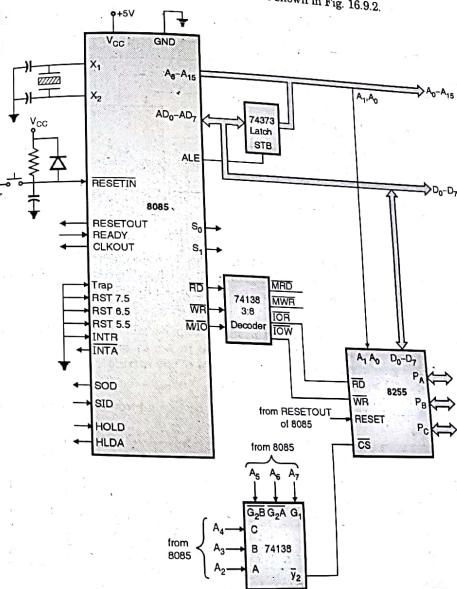

Fig. 16.9.2 : 8255 interfacing in I/O mapped I/O
Step 6: The detailed interfacing diagram will be as shown in Fig. 16.9.2.